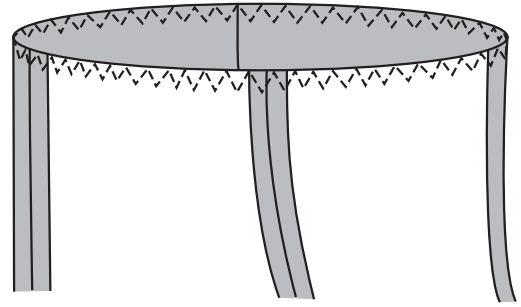

Fig. 1-4
6. Finish the waist edge with a zigzag stitch. (Fig. 1-4) Then fold 1 inch (2.5 cm) to the inside of the pants to make a casing and pin. Stitch close to the lower edge of the casing, leaving a 2-inch (5-cm) opening to insert the elastic.